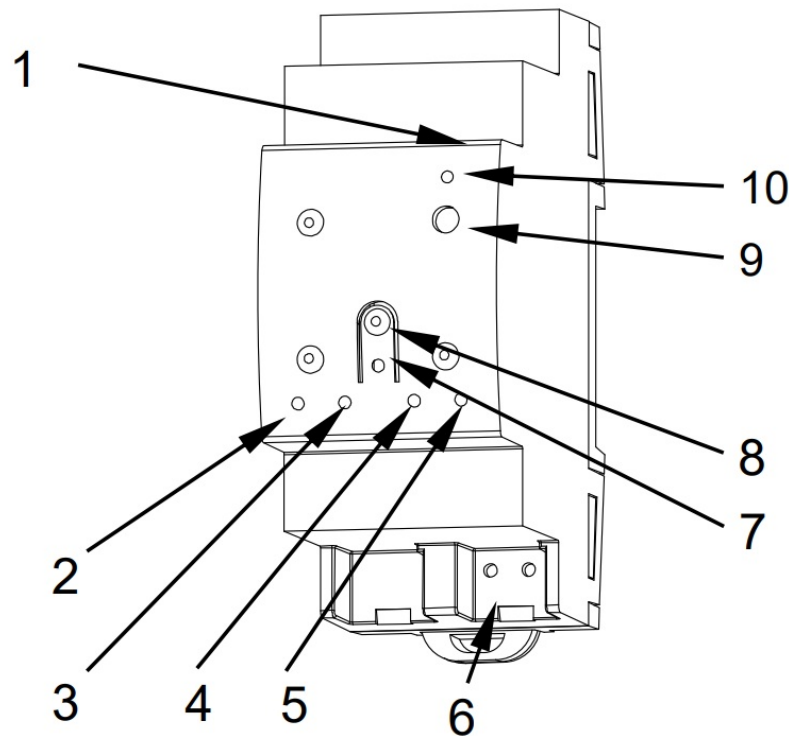

Figure 1. Element Diagram
Figure 1 shows a scheme with all the LED indicators and required connections. This device does not require an external power supply, it is powered through the KNX bus.
Figure 1 programming button (8) may be pressed to set KIPI SC in programming mode. After a short press, the programming LED (7) will light in red.